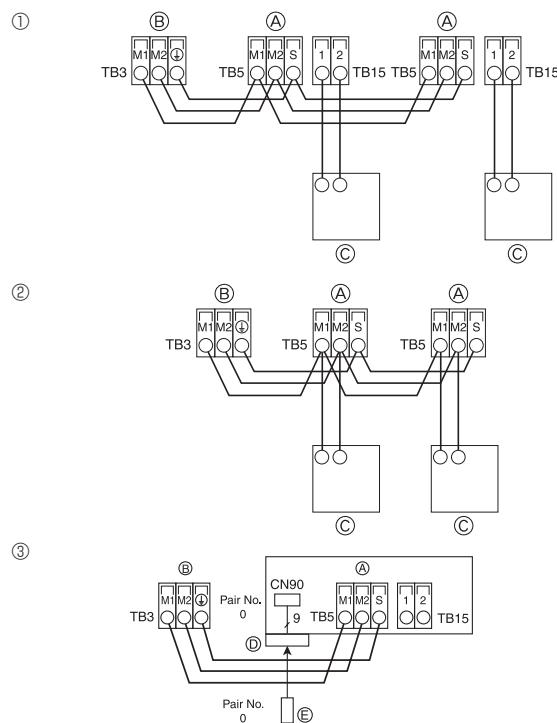

Fig. 4-8
4.4. Connecting remote controller, indoor and outdoor transmission cables (Fig. 4-8)
- ① MA Remote controller
- ② M-NET Remote controller
- ③ Wireless remote controller (When installing wireless signal receiver)